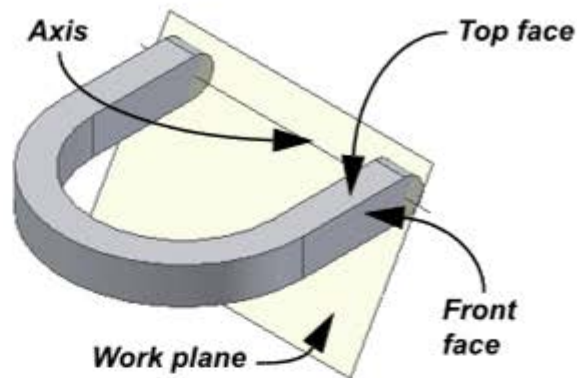

Figure 7–36
4. Which option enables you to create the work plane shown in Figure 7–36?